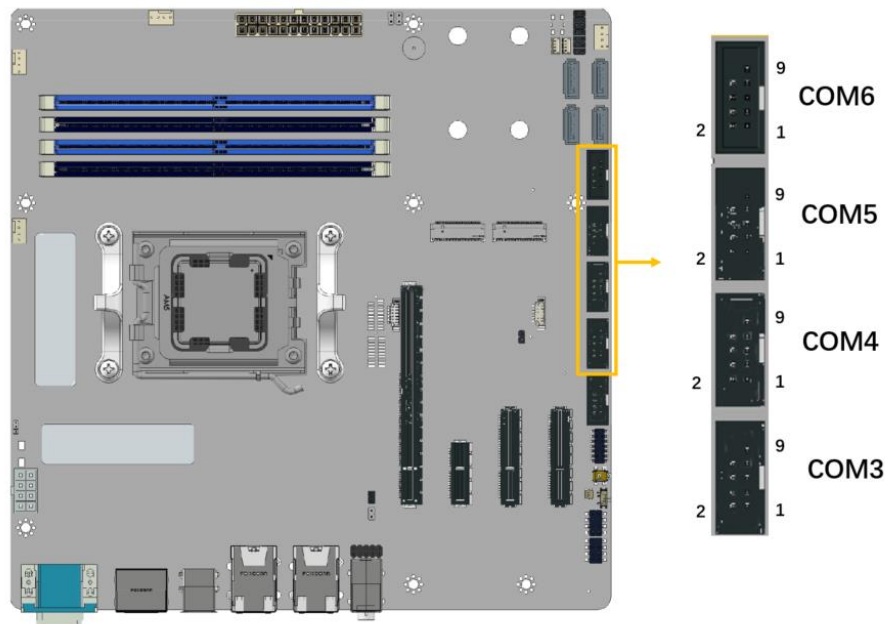

Figure 4-27: RS-232 Connector Location
- CN Location:** See **Figure 4-27**